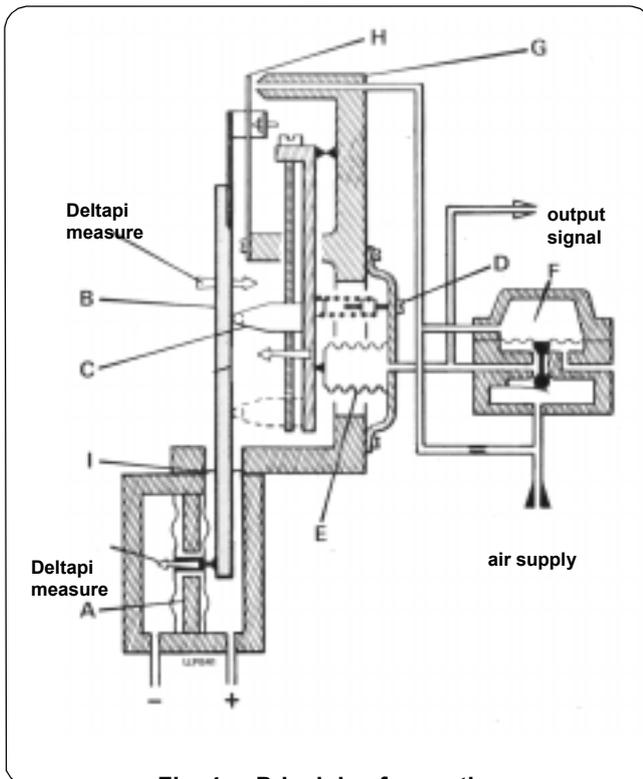

Fig. 4 - Principle of operation
The DP5 transmitter operates on the force balance principle. The system is depicted schematically in fig. 4. Referring to the diagram, a differential pressure is applied across the diaphragm capsule (A) this generates a force at the capsule in the direction of the arrow "DP measure" and which is applied to the lower end of the transmission bar (B). This force produces a moment relative to the fulcrum point (fulcrum diaphragm) (I) and thus a moment of the force beam about the fulcrum. This movement, in the direction of the arrow "Deltapi measure" varies the distance of the flapper (H) controlled from the upper end of the force beam, relative to the nozzle (G). Air is supplied to the nozzle via a fixed restriction orifice and discharges to the atmosphere through the flapper nozzle gap and variations of this gap determine the back pressure value at the nozzle. The nozzle back pressure is sensed by the relay diaphragm which positions the double valve in the relay (F) to allow supply air into the output system of relay. The output pressure from the relay is fed to the feedback bellows (E) (and to the receiving equipment) the pressure rising until the bellows force balances that of the diaphragm capsule; at this point equilibrium is attained and the output pressure is proportional to the differential pressure and thus representative of the differential pressure at the measuring unit. A reduction of the differential pressure value as sensed by the measuring unit diaphragm capsule will initiate a train of events in opposite direction to that given above.